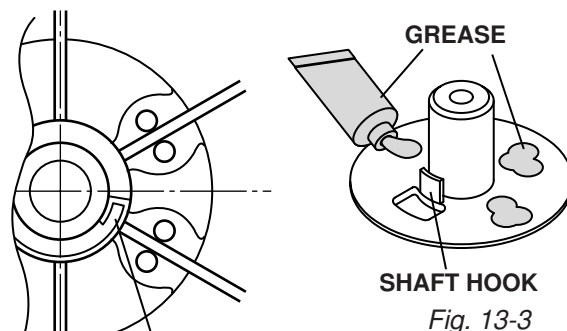

Fig. 13-3
- (1) Put the reel back into the case
- 1 Apply grease to the surface of the case. (Fig.13-3)